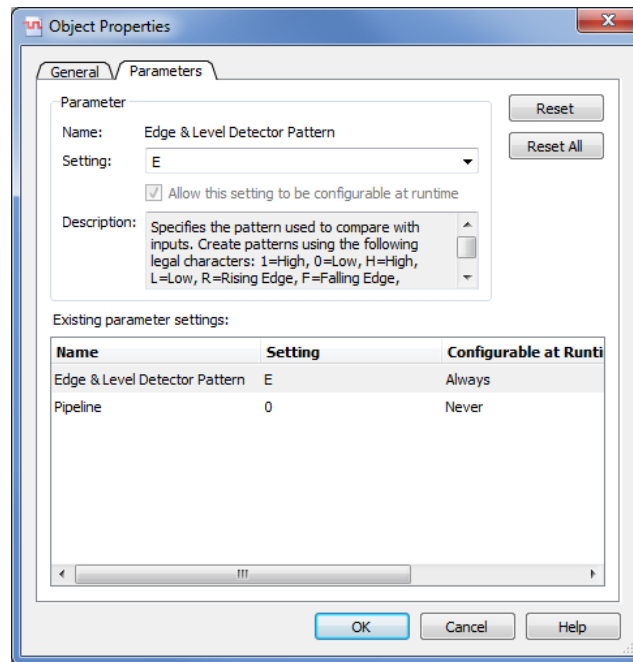

Figure 22. Type E in the setting box so that the function triggers on both rising and falling edges.
- We now need to set each edge and level detector to sense either a falling edge or a rising edge. Double click one of the edge and level detectors, bringing up the window in Figure 22. Type E in the setting box and then click OK. This will mean that the detector will output 1 whenever there is either a falling edge or a rising edge of its input. Repeat this step for the two remaining edge and level detectors.